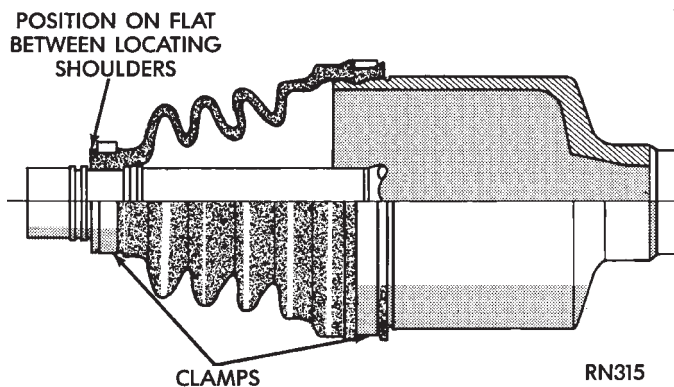

Fig. 39 Boot and Clamp Positioning
(6) Position outer C/V joint seal boot, into boot retaining groove on outer C/V joint housing (Fig. 39). Install seal boot to outer C/V joint retaining clamp evenly on sealing boot.